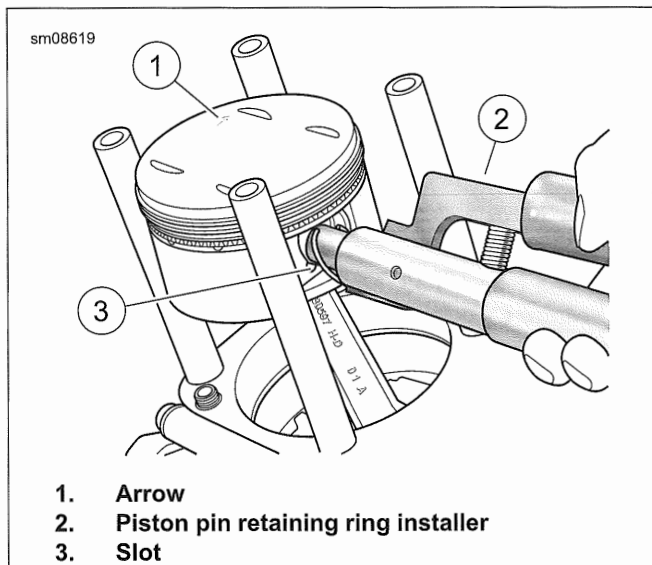

Figure 4-43. Install Pin Retaining Ring
- d. See Figure 4-43. Insert the tool (2) into the piston pin bore until claw is aligned with slot (3) in piston.
- d. See Figure 4-43. Place piston over rod end with the arrow (1) pointing toward the front of the engine.